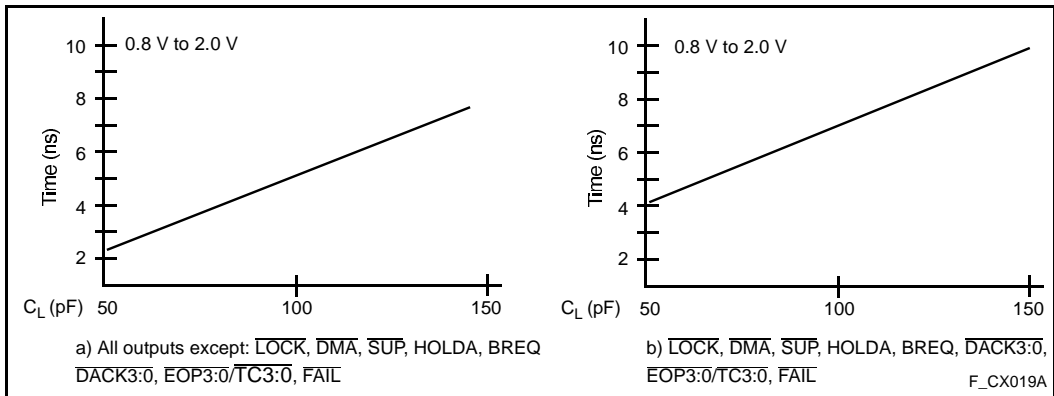

Figure 17. Rise and Fall Time Derating at Highest Operating Temperature and Minimum VCC
3. See Figure 17 for capacitive derating information for rise and fall times.